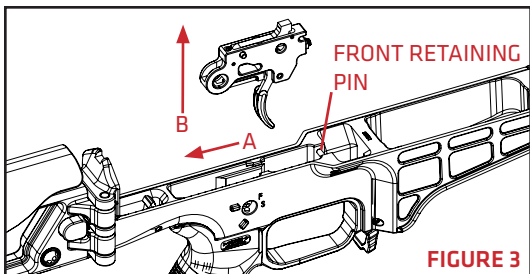

FIGURE 3
3. Slide the trigger module rearward to disengage the front retaining pin, then lift it out of the receiver (**FIGURE 3**).